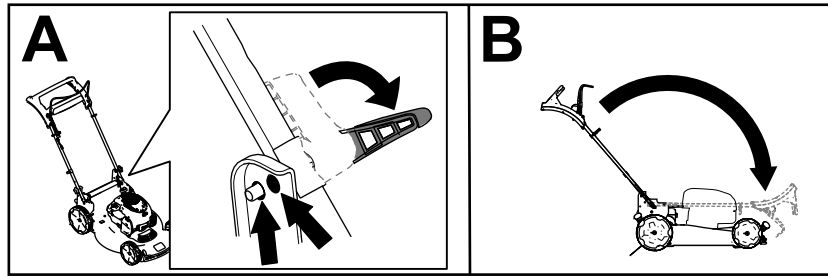

Figure 19
2. Disengage the handle locks until you can move the upper handle freely (A of Figure 19)
3. Fold the handle forward to the fully forward position (B of Figure 19).